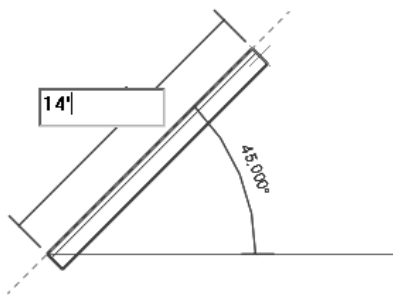

Figure 3-39 Sketching the first inclined wall segment
- Select the **Line** sketching option and sketch the inclined wall profile using the **Chain** option, refer to Figures 3-39 through 3-45.
4. Enter the value **14'** to specify the length of the first wall segment; the value is displayed in the edit box, as shown in Figure 3-39. Press ENTER to create the first wall segment of the specified length.